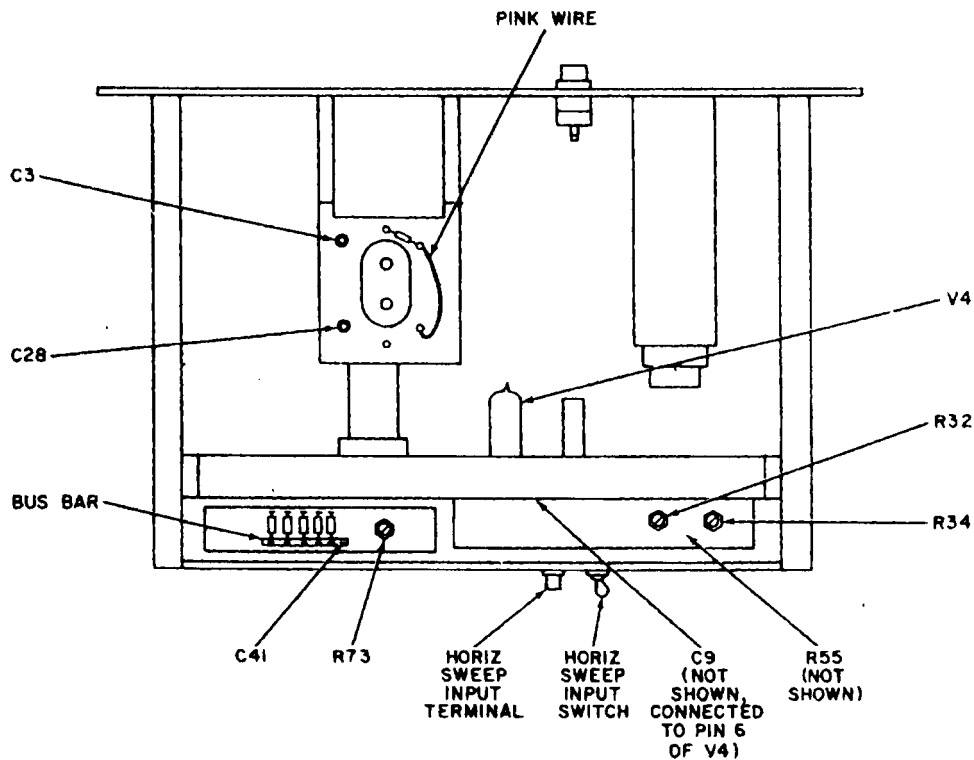
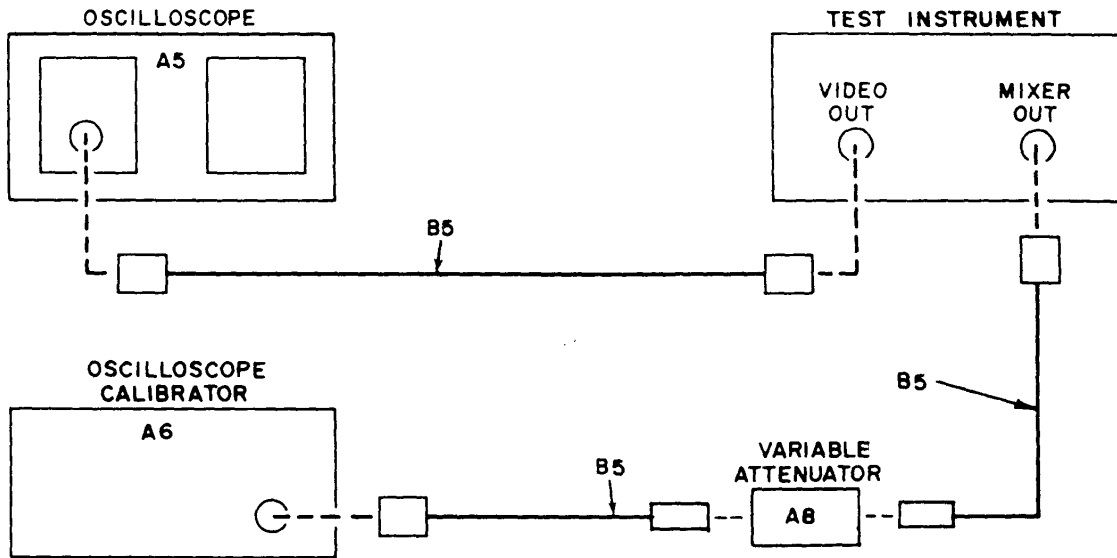

Figure 2. Transfer oscillator--top view.
Figure 3. Video amplifier - equipment setup.
(1) Set **FREQUENCY MEGACYCLES** dial to **200**.
(2) Adjust C3 and C28 (fig. 2) for a 200-MHz indication on frequency counter (R).
- (5) Connect equipment as shown in figure 3.
- (6) Oscilloscope waveform will have a risetime no greater than 0.22  $\mu$ s, overshoot less than 25 percent, droop less than 10 percent, and amplitude of at least 0.5 V p-p. If overshoot is not within tolerance perform **b** below,
- (7) Adjust **FOCUS** and **INTENSITY** controls for suitable display and adjust **HORIZ GAIN** control for approximately 1 inch of horizontal deflection. Vertical deflection will be at least half the diameter of the crt.
**b. Adjustments.** Bend leads of C9 with respect to pins 1 and 2 of V 4 (fig. 2), until overshoot is less than 25 percent.
### b. Adjustments (fig. 2)
(1) Connect differential voltmeter (A2) between ground and junction of C41 and bus bar (fig. 2), using test lead (B8). If voltmeter does not indicate between 231 and 249 V dc for Models 540B, CM77, and CM77A, except models with serial number between 129-00101 and 129-00597; or between 216 and 234 V dc for Models 540A and 540B with serial number between 129-00101 and 129-00597, perform **b**(1) below.
(2) Vary autotransformer (A1) output between 105 and 125 V ac and repeat (1) above.
(3) Adjust autotransformer for a 115-V ac output.
(4) Adjust differential voltmeter to measure ac voltage. Differential voltmeter will indicate less than 5 mV rms.
(5) Connect differential voltmeter between ground and pink wire (fig. 2), using test lead (B8). If differential voltmeter does not indicate between 5.6 and 6.0 V rms for Models 540B, CM77, and CM77A; or between 5.8 and 6.2 V rms for Model 640A, perform b(2) below.
### **b. Adjustments (fig. 2)**